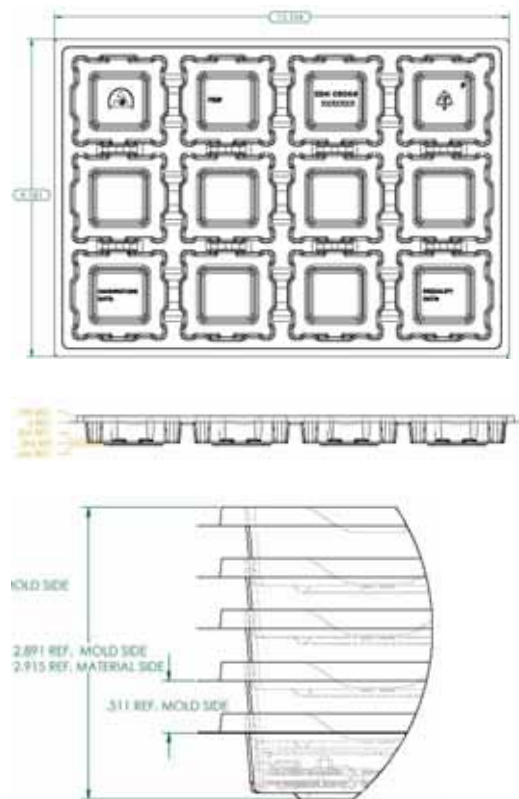

Figure 28.Surface Mount Packaging Tray
The surface mount version, JHW050XX-S power modules are supplied as standard in the plastic tray shown in Figure 28. The tray has external dimensions of 234mm (W) x 334mm (L) x 21.5mm (H). The tray is designed to allow the use of either vacuum pick up or mechanical grippers to automatically place the power module.